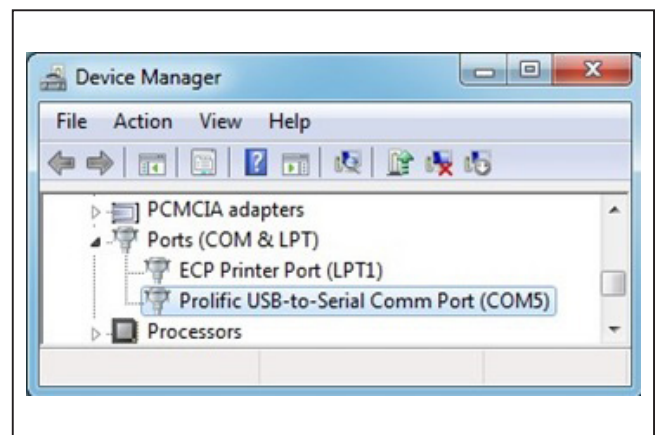
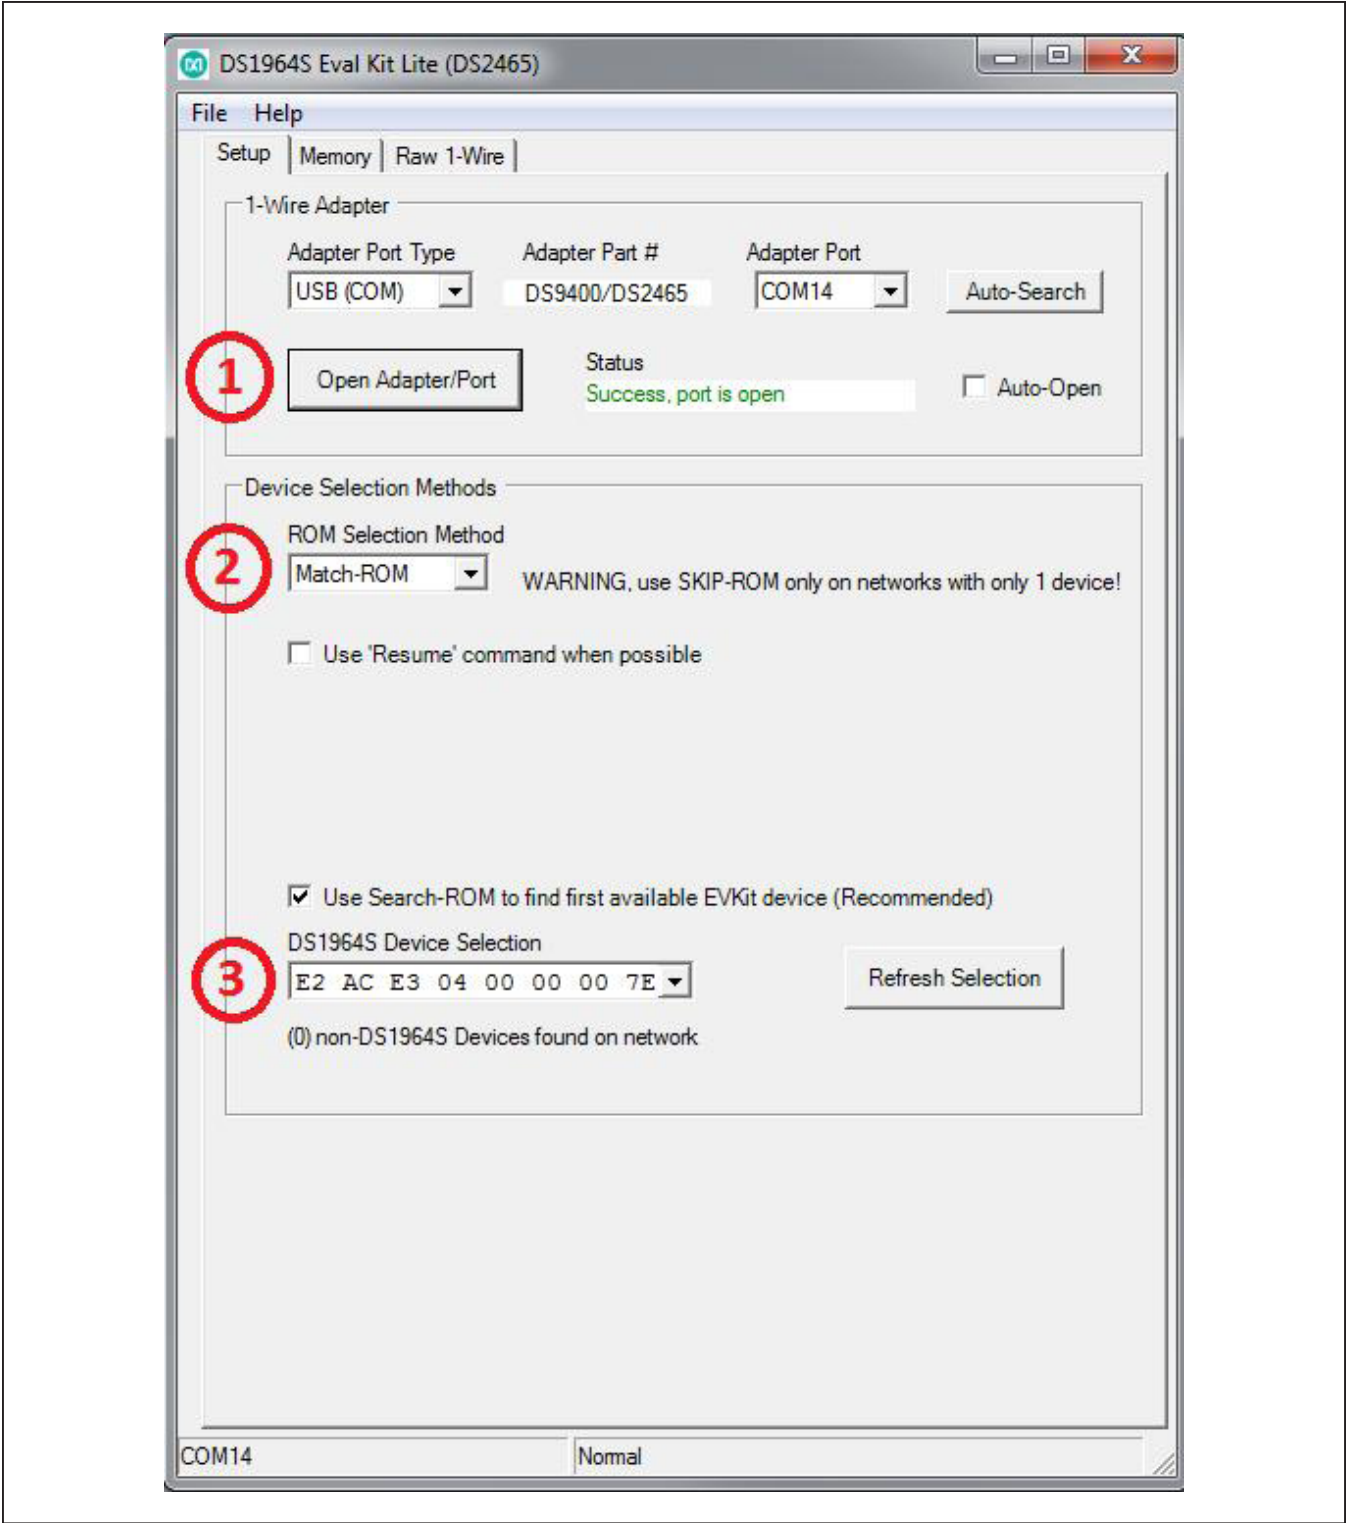

Figure 1. DS9400# Prolific COM Port
Figure 2. Evaluation Software: Main Window Setup Tab
- 4) If not done already, insert the DS9400# into a spare USB port on the computer and verify correct installation of the virtual COM port. To check the COM port, look in **Control Panel | System | Device Manager** and expand **Ports (COM & LPT)**. If the driver is installed correctly, the driver should display as in the example shown in Figure 1. Your COM Port might be different from the one shown on Figure 2.
- a) In the **1-Wire Adapter** group box on the **Setup** tab (Figure 2), the **Adapter Port** is a COM port mapped by the prolific device. Click on the **Open Adapter/Port** button or use the **Auto-Search** button. If successful, the **Status** field next to the **Open Adapter/Port** button displays **Success, port is open**.